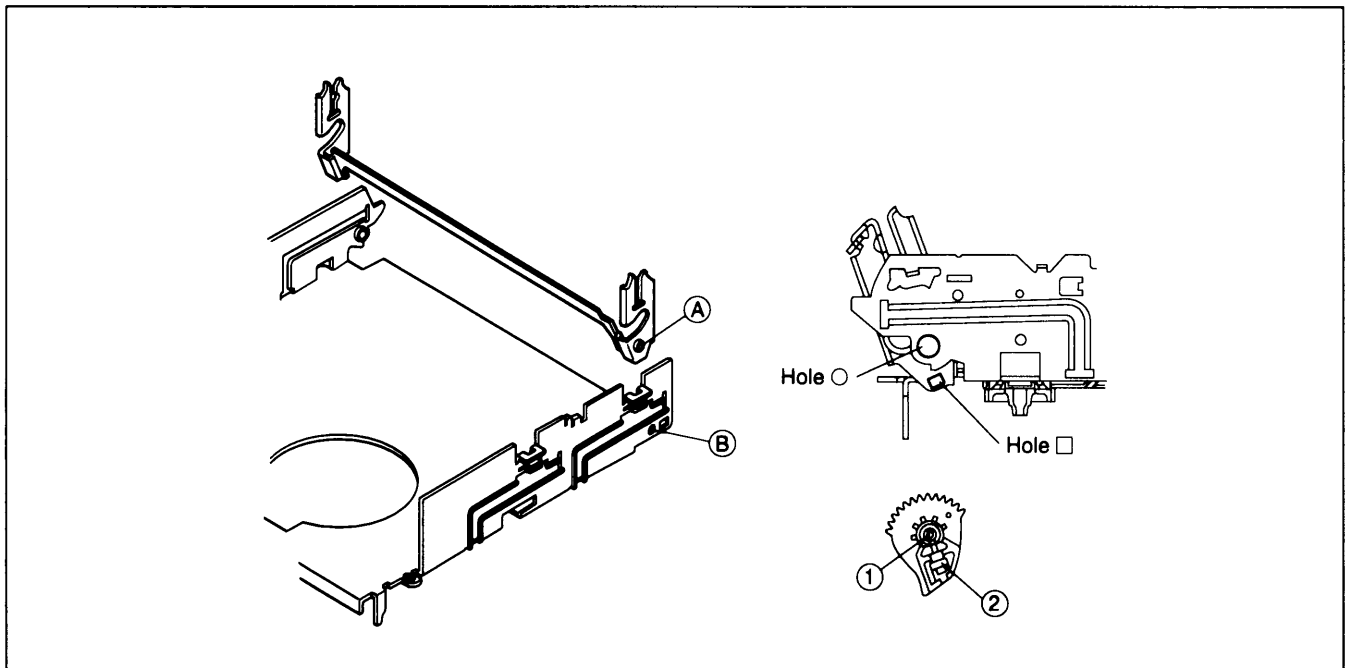

Fig. 2-2-31
- (1) Insert section (A) of the drive arm into section (B) of the main deck.
- (2) Insert section (1) of drive gear into hole (O) of the drive arm and section (2) into hole (□). (See Fig. 2-2-31)